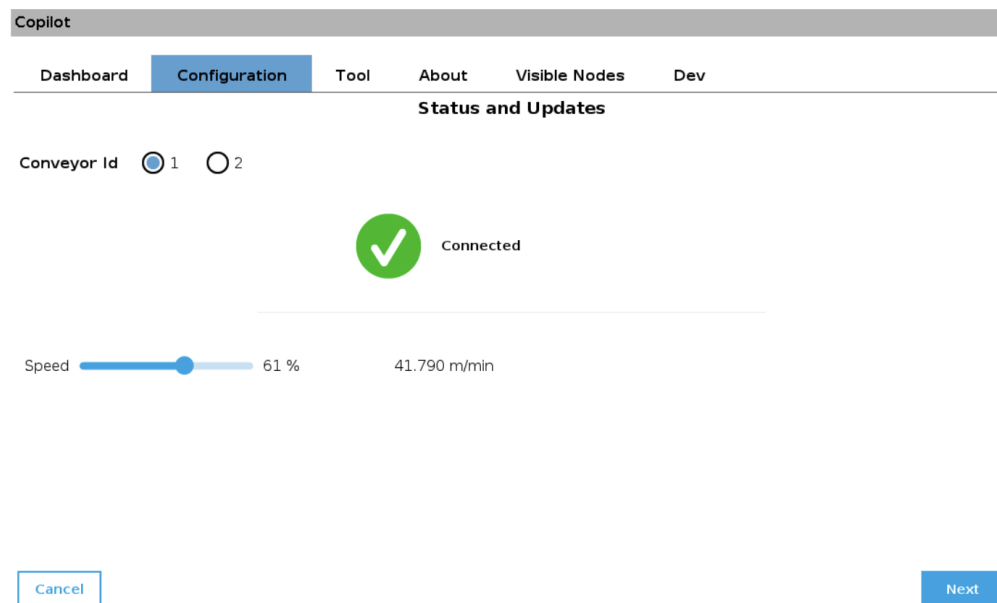

Fig. 4-25: Copilot URCap - Configuration - Speed
- If the desired box separation or a stable box travel is not achieved, adjust the conveyor speed. This is done with a speed slider in the Configuration menu of the URCaps Installation Tab as shown in Fig. 4-25. The speed can range from 18 to 57 m/s, with a default of 42 m/s. In the interface, this corresponds to 61%.